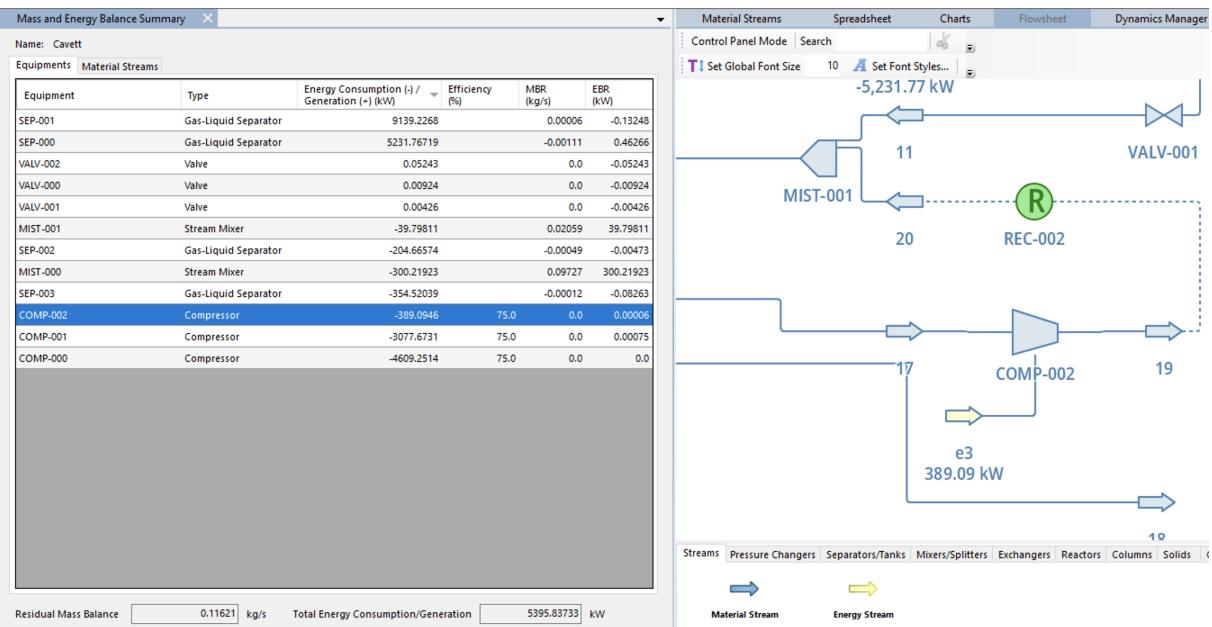

Figure 40: Mass and Energy Balance Summary tool.
An expander system with its connections is shown on Figure 40.
Removing objects from the flowsheet The selected object can be removed from the flowsheet by pressing the DEL keyboard button or by using the context menu - "Delete" item (Figure 40).
Entering process data The objects' process data (temperature, pressure, flow, composition and/or other parameters) can be entered in the property editor window (Figure 40). Properties that cannot be edited (read-only) are grayed-out.
If all object properties were correctly defined, it will be calculated by DWSIM and its flowsheet representation will have a blue border instead of a red one, indicating that the object was calculated successfully (Figure 40).
It is possible to control DWSIM's calculator by using its button bar (Figure 40). Clicking on the button activates or deactivates the calculator. The button performs a full flowsheet recalculation. DWSIM's calculator is enabled by default - if it is disabled, modifying of a property is accepted, but **does not** recalculate the object nor the ones that are downstream in the flowsheet. The button stops the any ongoing calculation.
As DWSIM's calculator does its job, messages are added to the "Information" window. These messages tell the user if the object was calculated successfully or if there was an error while calculating it, among others (Figure 40).
Results can be viewed in reports, generated (Figures 40 and 40) for printing. Report data can also be saved to ODT, ODS, XLS, TXT or XML files.
→ **True Critical Point** - utility to calculate the true critical point of a mixture (Figure 40).
→ **Phase Envelope** - Material stream phase equilibria envelope calculation (Figure 40);
→ **Binary Envelope** - special envelopes for binary mixtures (Figure 40).
→ **Petroleum Cold Flow Properties** - special properties of petroleum fractions, like cetane index, flash point, refraction index, etc. (Figure 40).
Chemical reactions in DWSIM are managed through the **Chemical Reactions Manager** (Simulation Settings > Reactions panel) (Figure 40):
The user can define various reactions which are grouped in *Reaction Sets*. These reaction sets list all chemical reactions, and the user must activate only those he/she wants to become available for one or more reactors, since the reactor's parameter is the **reaction set** and not the chemical reactions themselves. In the reaction set configuration window it is also possible to define the reaction ordering. Equal indexes define parallel reactions (Figure 40):
DWSIM provides three tools for characterization of petroleum fractions. One of them characterizes C7+ fractions from bulk properties (Figure 40). The other characterizes the oil from an ASTM or TBP distillation curve (Figure 40). There is also a tool to create pseudocompounds from tabular data.
- **Characterization from bulk properties** The method itself requires a minimum of information to generate the pseudocomponents, though the more data the user provides, the better will be the results (Figure 40). It is recommended that the user provides the specific gravity of the C7+ fraction at least. Viscosity data is also very important.
The interface has a wizard-like style, with various customization options (Figure 40):
- Bulk/Batch creation of pseudocomponents/pseudocompounds The Bulk Create Pseudocompounds tool can be used to create pseudocompounds in a batch when you have the required data in a tabular format, or only part of the data. If some data is missing, DWSIM can estimate it before exporting the compounds to XML, JSON or add them to the Flowsheet (Figure 40).